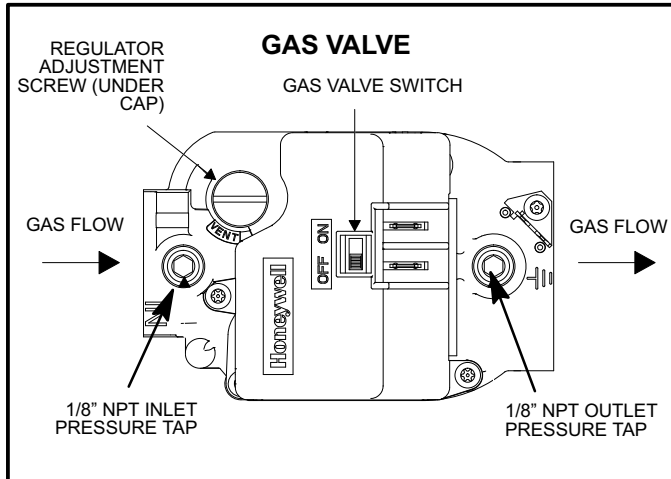

FIGURE 13
3. Move the gas valve switch to the **ON** position (see figure 13).
2. Move the gas valve switch to the **OFF** position (figure 13).
3. The gas valve has an adjusting screw. See figure 13 for adjusting screw location. Remove the cap and turn the adjusting screw clockwise to increase pressure and input; turn counterclockwise to decrease pressure and input.